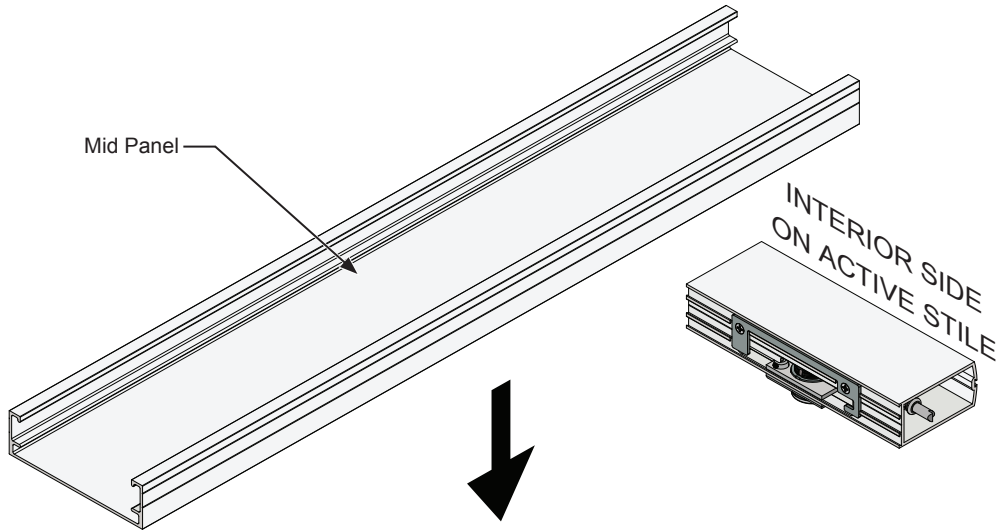

FIG. 12
1. Install the Mid Panel. (Fig. 12)